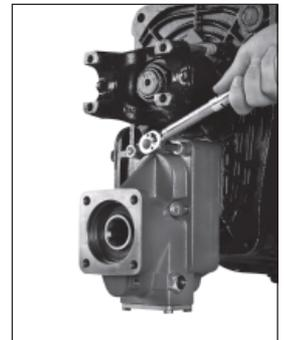

Figure 4
4. Torque the four bolts to 53-58 ft. lbs [71-79 N.m]. (See Figure 4)